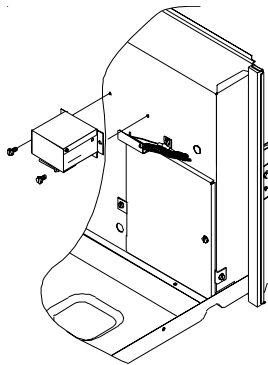

Figure 10
5. Mount the door motor housing with two #8 screws to the provided holes in the partition panel. Ensure the cross pin in the door shaft is rotated around so that it touches the rubber bumper underneath the door motor housing (Figure 10).